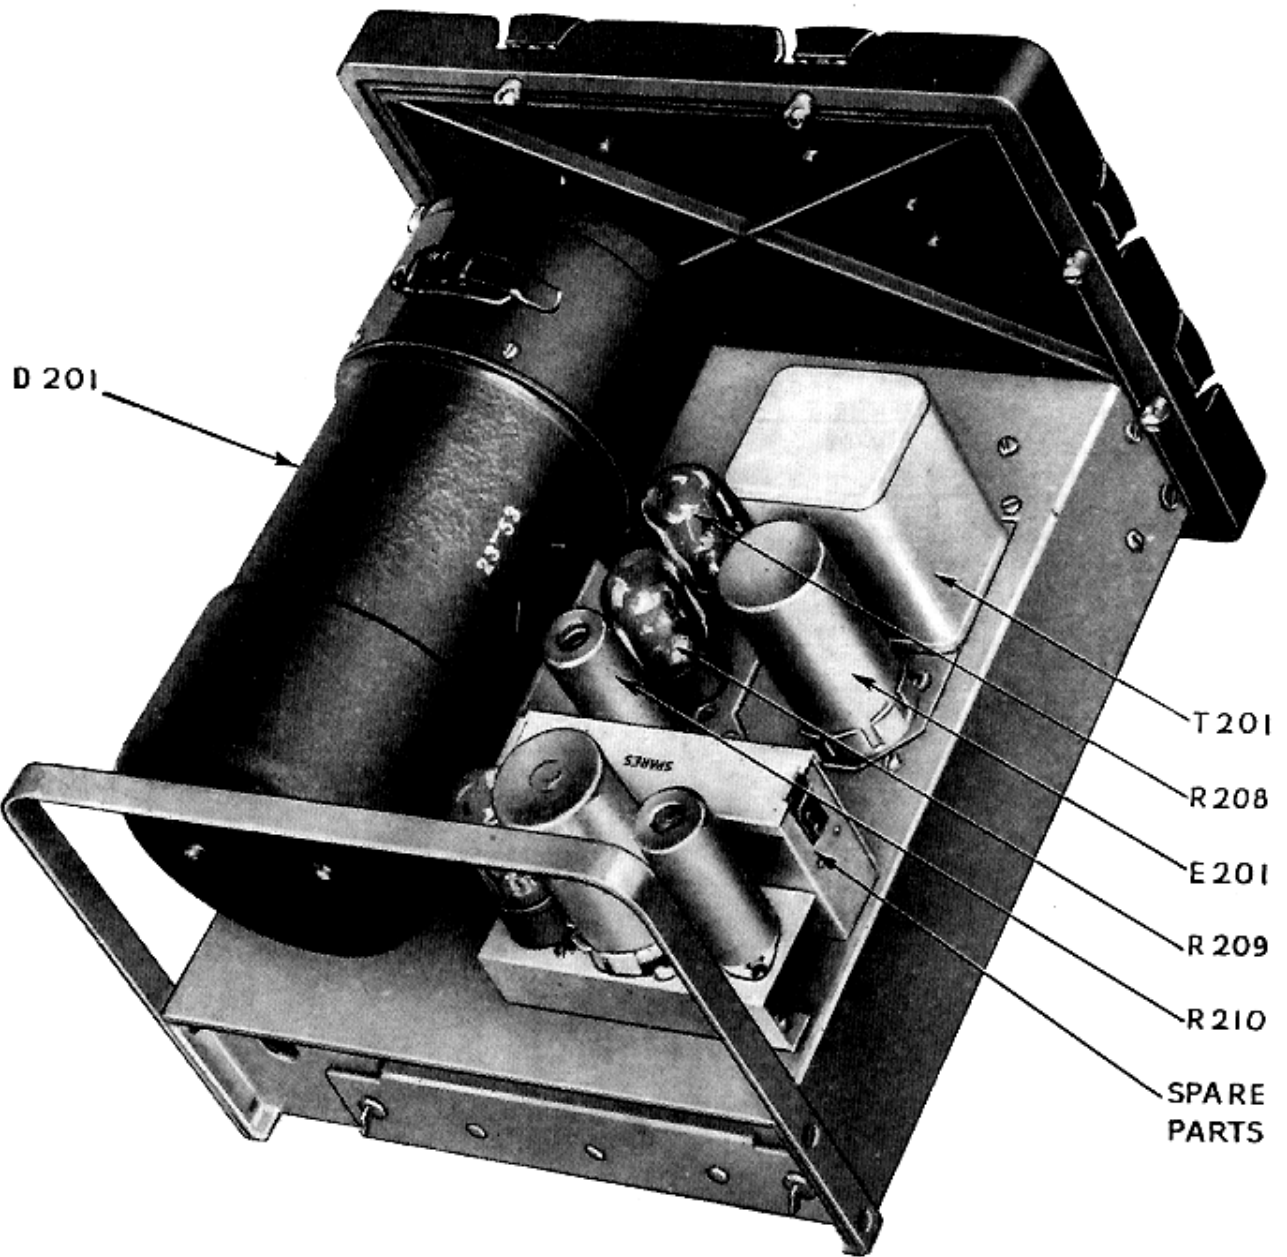

Figure 122.1. Dynamotor-Power Supply DY-88/GRC-9, cover removed, top view.
(1) Vibrator E201 and ballast tubes R208, R209, and R210 are located on the upper side of the chassis (fig. 122.1). E201, R208, and R209 can be removed without further disassembly. R210 is shielded by E207. The shield is removed by twisting it in a counter-clockwise direction and then pulling it straight up off the tube. R210 then can be removed without difficulty.
Page 158. Fig. 122. Insert figures 122.1 and 122.2, after figure 122.
- b. Remove the four screws holding each of the two access covers (fig. 122.1) to the dynamotor. The 12-and 24-volt brushes now are accessible.